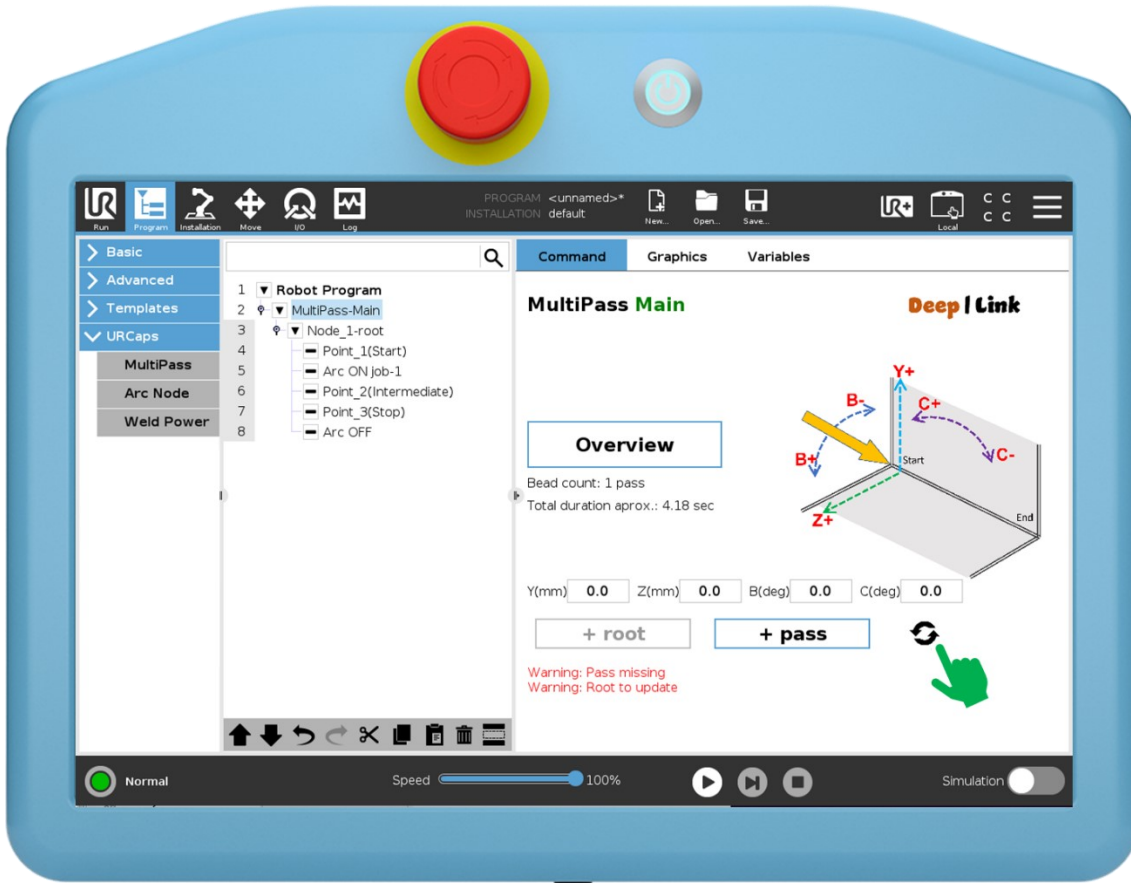

Figure 28 Clear error when updating Multipass root path.
**Multipass root path is possible to update, after changing waypoint or change Motion parameter on Pass Node (root), you need to go to MultiPass-Main node to clear misalignment errors by clicking the update icon, refers to Figure 28.**